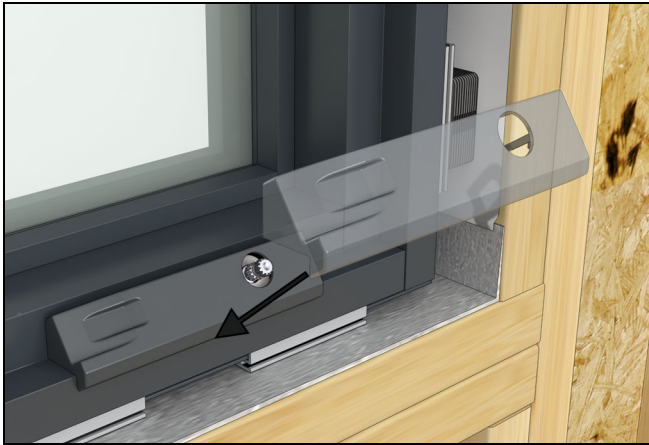

Figure 49
4. Install the crank hardware cover. Snap the cover on the base of the hardware. See Figure 49.